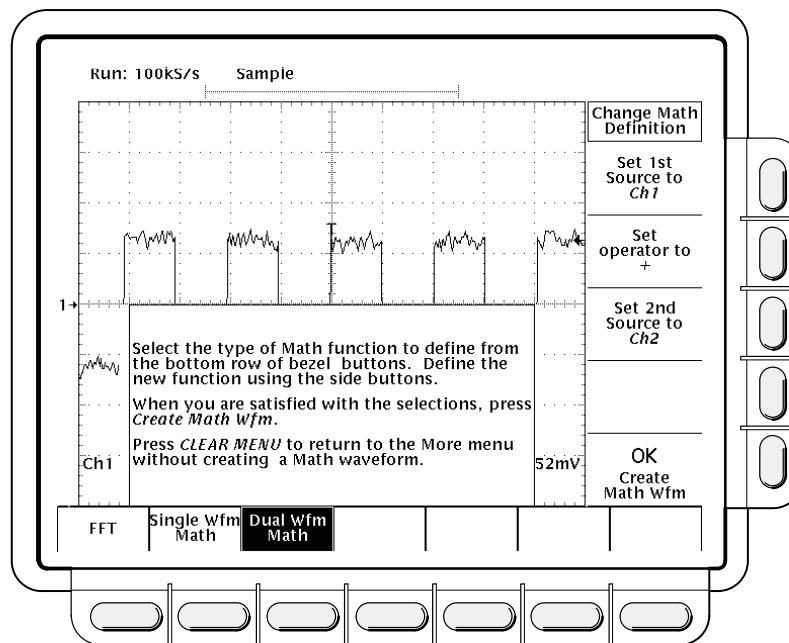

Figure 3-85: Dual Waveform Math Main and Side Menus
4. Press **Change Math waveform definition (side)** → **FFT** (if your oscilloscope contains Advanced DSP Math), **Single Wfm Math**, or **Dual Wfm Math (main)** to alter the present math waveform definition (see Figure 3-85).